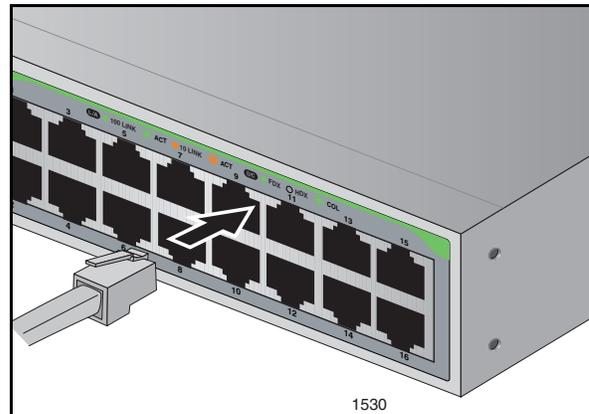

Figure 14. Connecting the Twisted-twisted-pairPair Data Cables
1. Connect the twisted-pair data cables to the RJ-45 ports on the switch, as shown in Figure 14.